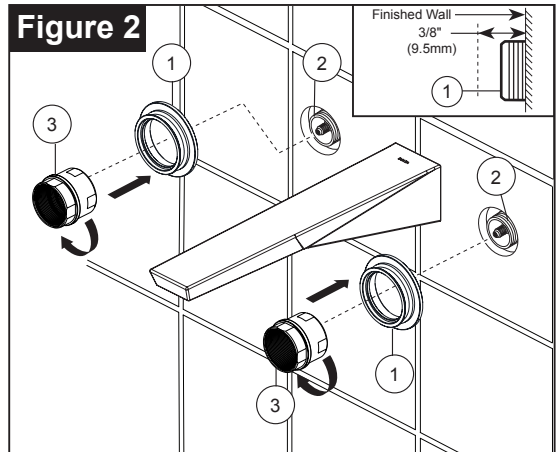

Figure 2
Install handle flange (1) onto mounting sleeve (2) and secure with flange nut (3). **NOTE: Have the other side of flange (1) with gasket toward the wall.** If mounting sleeve (2) is extending from finished wall more than 3/8", use the short flange nut as shown in **figure 1**. If mounting sleeve (2) is sub flush or extending less than 3/8" from finished wall, use the long flange nut as shown in **figure 2**.